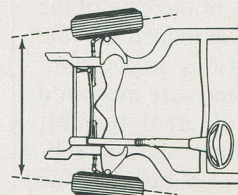

Fig. 3. Top view of a vehicle showing toe-in.
**TOE:** Toe would seem to be the most straightforward concept in wheel alignment, but the requirements of today's market make it a little more interesting. Basically, toe is a measurement, in inches traditionally (although this is changing to degrees), of the angle of each wheel with respect to the centre line of the vehicle, when viewed from above. (See Fig. 3) This can also be measured on the rear wheels. Positive toe readings come from the front of the wheels pointing inwards, while negative toe indicates the front of the wheels point outwards. Again toe adjustments are needed to counteract road forces against the wheels and must be set so that when the steering wheel is straight the vehicle will drive straight down the road with no pull either way. An incorrect toe adjustment will cause pull, crooked steering wheels and excessive tire wear.